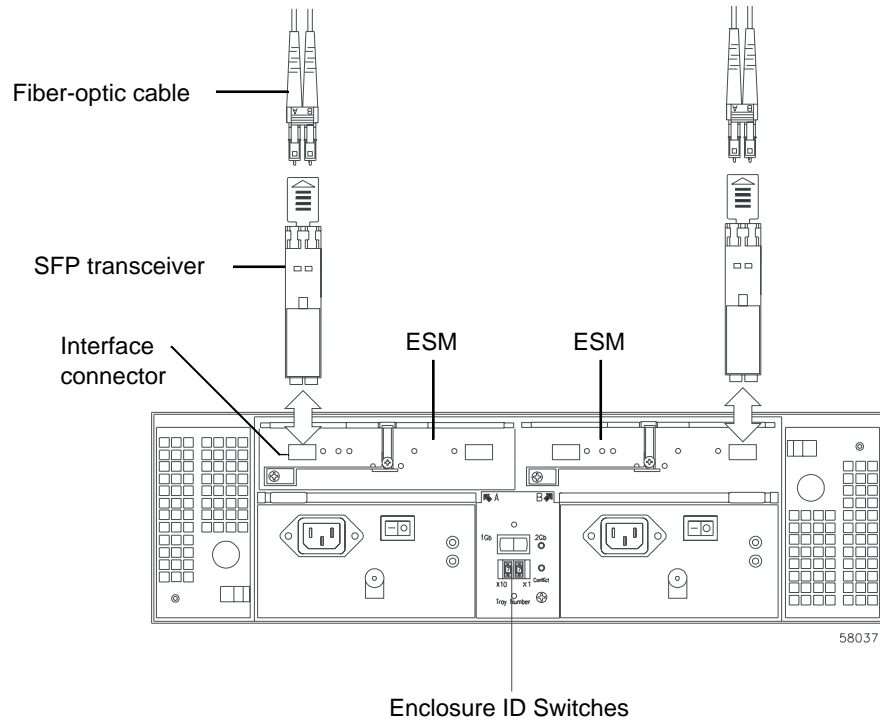

Figure 7-6 Removing and Installing an SFP Transceiver
5. Wearing antistatic protection, remove the Fibre Channel cables from the failed SFP transceiver (see Figure 7-6).
9. Check the bypass indicator next to the failed SFP transceiver (see Figure 7-6).